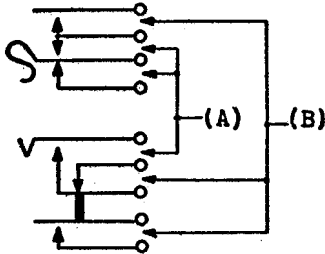

Fig. 6—Illustrating Contact Separation
- Fig. 6(A): 0.014 inch (Readjust—0.016 inch).
- Fig. 6(B): Contacts except those actuated by a plunger spring or by a spring actuated directly by a plunger spring by means of a stud—0.010 inch (Readjust—0.012 inch).